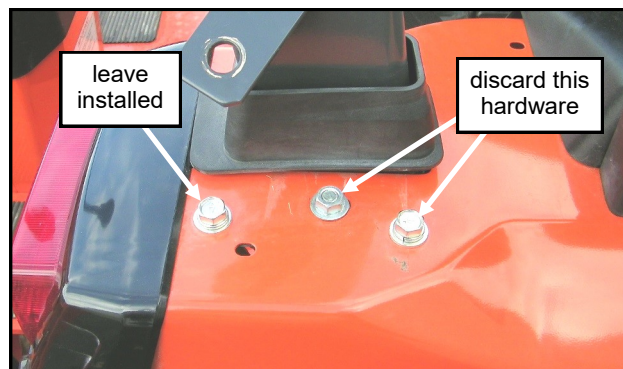

Fig. 1.10 (fender hardware - right)
**1.10** (B2301 or B2601 only) Per figure 1.10, remove and discard the middle piece of hardware found on the fenders near the ROPS. If the vehicle includes the hardware closest to the seat, remove and discard.